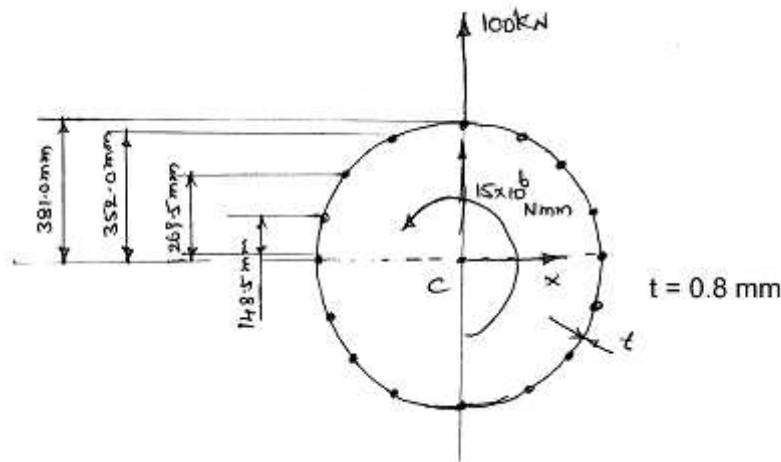

Figure 6
6. The fuselage of light weight passenger carrying aircraft has the circular cross Section shown in figure 6. The cross-sectional area of each stringer is 100mm^2 and the vertical distances given in figure are the mid line of the section wall at the corresponding stringer positions. The fuselage is subjected to transverse shear load of 100 kN acting through the shear centre together with pure torque equal to 15×10^6 Nmm. Calculate the shear flow distribution. [16]